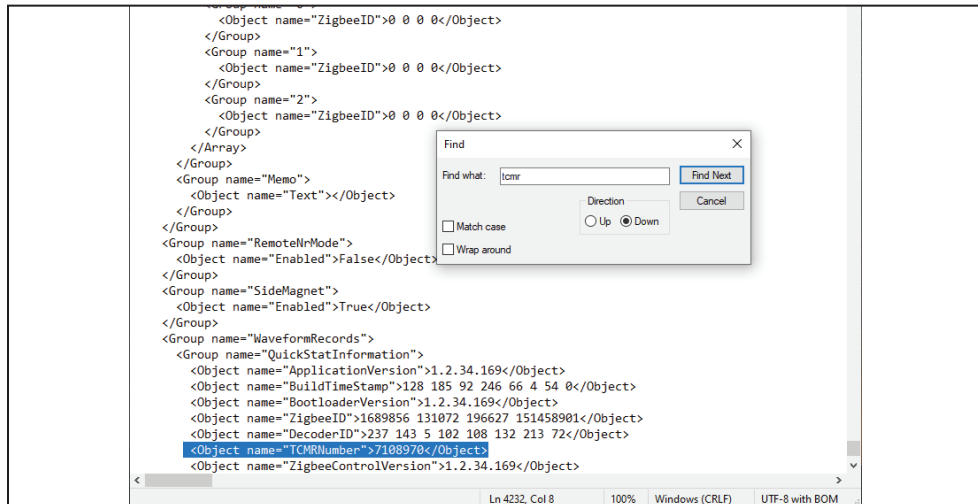

Figure 169. The Snapshot file opened with Notepad.
**Note:** If the firmware update was done with service center configuration software version 1.9 or earlier, S&C recommends opening the snapshot (.xdss) file in Microsoft Notepad to determine whether the TCMR number in the snapshot file matches the TCMR etched on the TripSaver II recloser being restored. (The serial number for the TripSaver II recloser (TCMR-) is etched on the recloser housing.) It is important not to alter the snapshot file when opened because doing so may have an adverse impact on the restoration process. See Figure 169.
**To check the snapshot file using Notepad:** Navigate to the *Documents>S&C Electric>Products>TripSaver II* folder. If several TripSaver II reclosers have been updated, more than one snapshot file could be in this folder. Open the snapshot file using Microsoft Notepad. From the **Edit** menu, select the **Find** menu item and search for “TCMR.” Match this to the TripSaver II recloser to which the profile data is to be restored. See Figure 169 on page 124. Close the snapshot file without saving any changes.